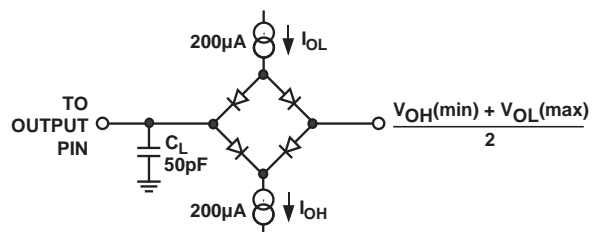

Figure 1b Load Circuit for SDO Timing Diagram (Serial Interface, Daisy-Chain mode)
- 6This is measured with the load circuit of Figure 1b.